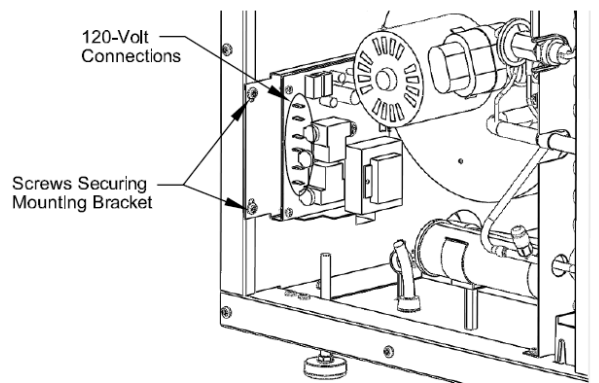

Figure 2 - Power Board Installed in Dehumidifier
- Disconnect the 120-volt connections from the power board (see **Figure 2**). Use a pliers to remove the quick disconnect terminals straight out. If terminals must be “wiggled” to remove, use as little side to side movement as possible – too much wiggling can cause the terminal to pull out of the board.